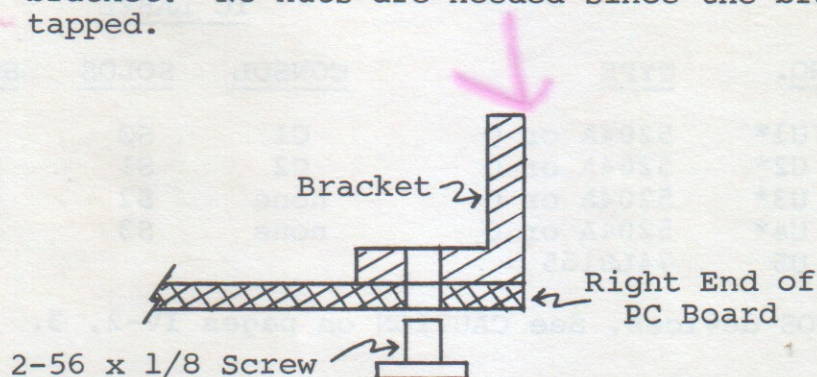

Figure 4-2. Handle bracket (Sol-1045) installation.
- () Step 6. Using two 2-56 x 1/8 binder head screws, install handle bracket (Sol-1045). Position bracket on front (component) side of board at the right end as shown in Figure 4-2. Align bracket holes with mounting holes in board, insert screws from back (solder) side of board and drive into bracket. No nuts are needed since the bracket holes are tapped.
With your kit, use the following procedure to attach the handle bracket in place of Step 6 in Paragraph 4.6.2, Section IV: (Figure 4-2 on Page IV-5 in Section IV may still be used for reference concerning the position of the bracket.)
Position handle bracket (Sol-1045) on front (component) side of the board at the right end as shown in Figure 4-2. Align bracket holes with mounting holes in board, insert screws from back (solder) side of board, place lockwasher on each screw, start nuts and tighten.